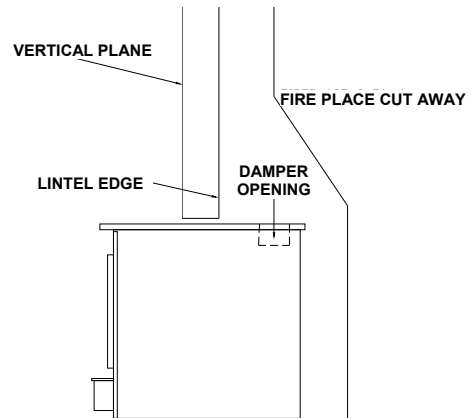

FIGURE 2 POSITIONING
When positioning heater, following conditions **MUST** be met! (See Figure 2).
1. The front of damper opening must be positioned **BEHIND** rear edge of the lintel to ensure proper draft. (See Figure 2).